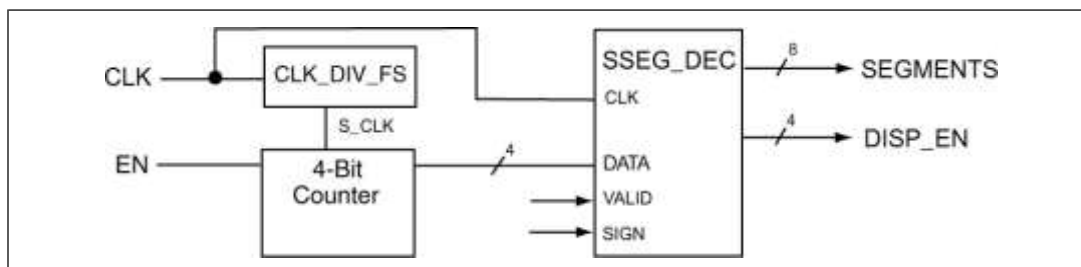

Figure 4: The circuit used for visually testing the 4-bit counter.
1. Using Verilog structural modeling, create a new circuit comprised of the 4-bit counter designed in Stage 2 and the standard SSEG_DEC module. Be sure to connect the VALID and SIGN inputs accordingly; Figure 4 shows most of the proper connections.